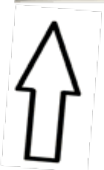

Fig 1
- 8/ Insert a male Air-Line fitting to your Control-Pad that is compatible with your air line . Seal fitting with a sealant or tape before inserting to stop Air Leaks . Once fitted , this fitting should not be removed. (see fig 1)